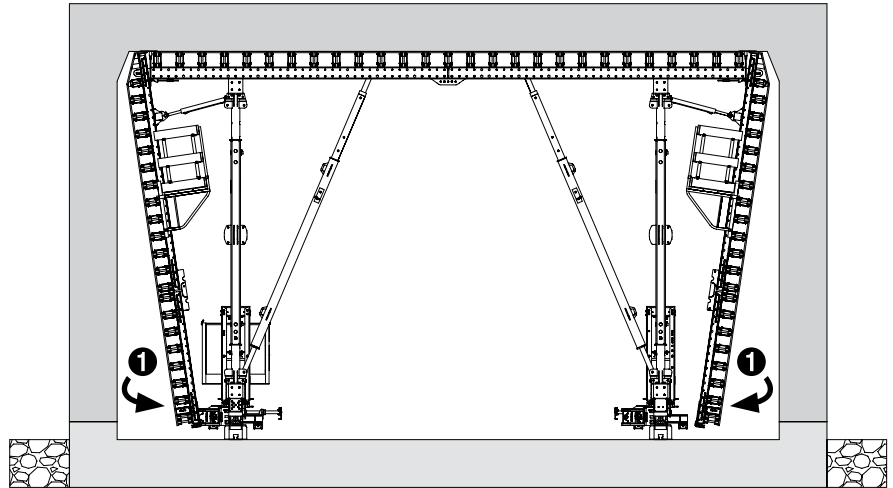

Fig. D2.01
5. Retract wall formwork. (Fig. D2.01)